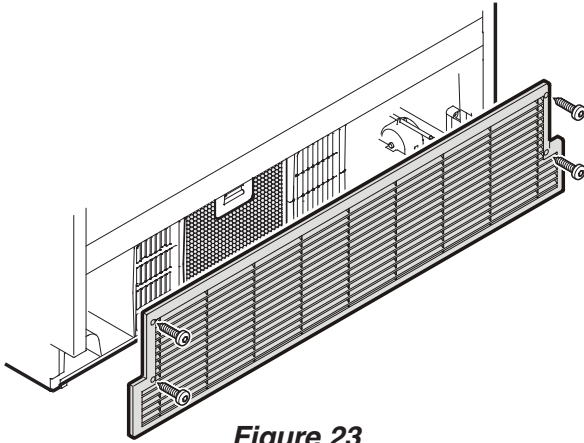

Figure 23
- Open the bottom freezer drawer and unscrew the ventilation grille - **Figure 23**.